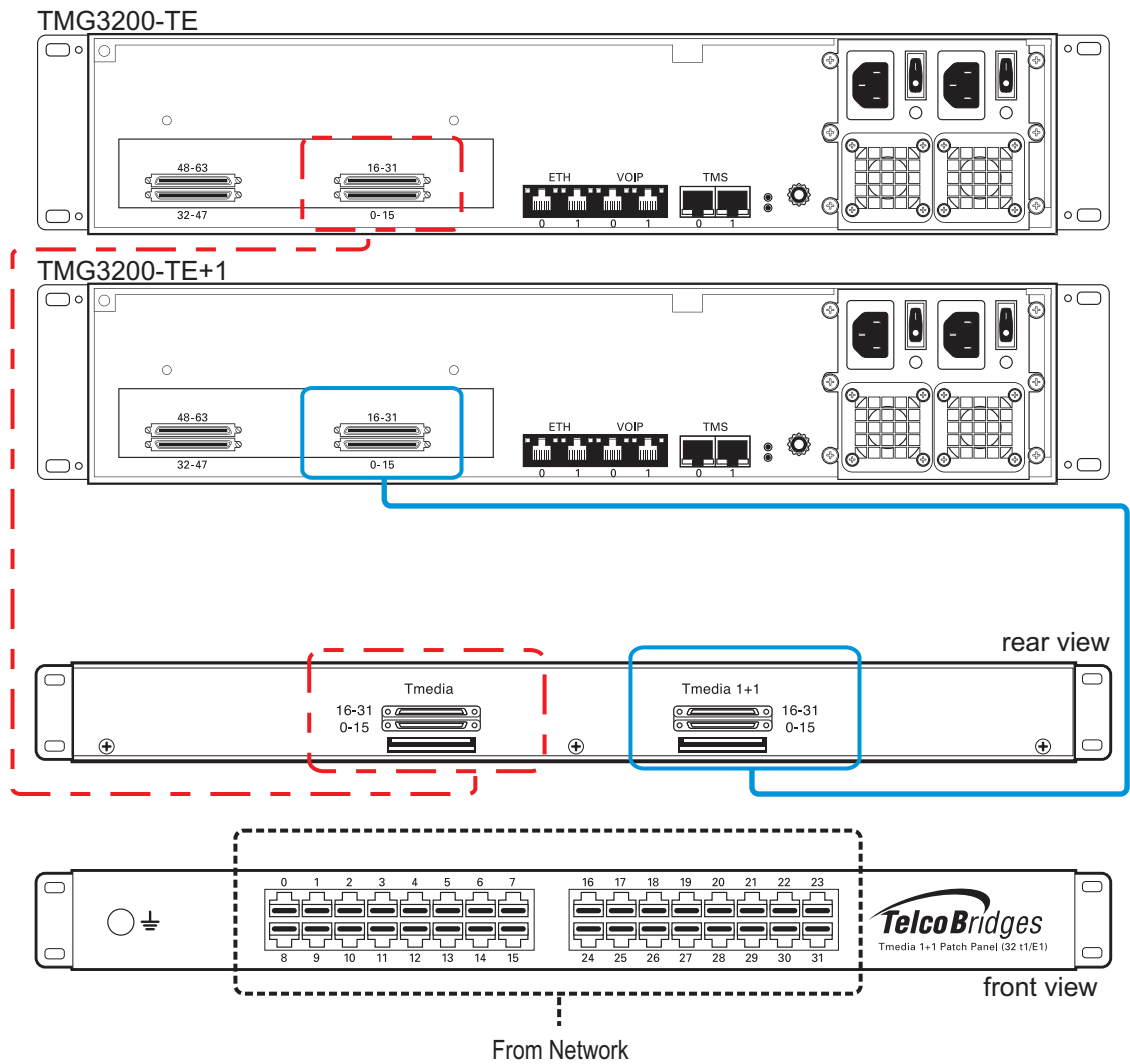

Figure 2.15 TMG3200-TE and TMG3200-TE+1 connecting to the TDM 1+1 32/T1/E1 1+1 patch panel
1. Connect each T1/E1 line from the network section of the 1+1 patch panel to the remote equipment. See figure 2.15 on page 36.